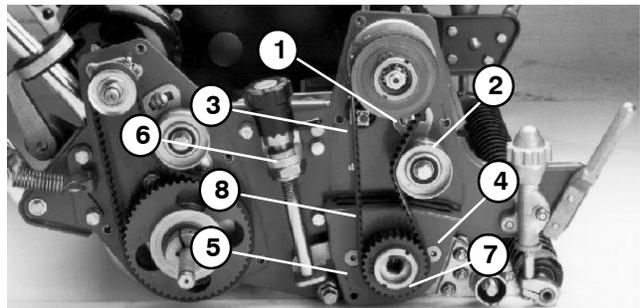

Figure 29
11. Install the pulley and drive assembly to the reel shaft as follows (Fig. 29):
13. On older model, pivot idler pulley assembly against the reel drive belt. Apply 20 to 25 lb (89 to 111 N) of force to the idler pulley. Tighten both carriage bolts securing the reel idler bracket to the frame (Fig. 29).